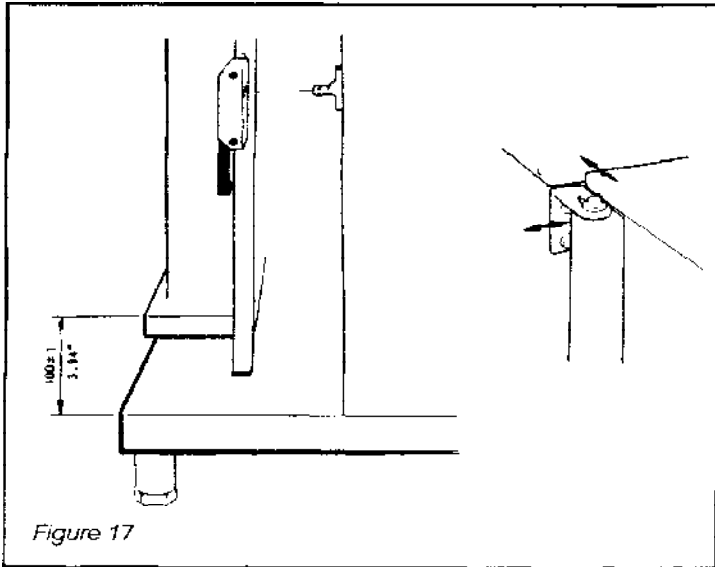

Figure 17
3. Adjust the casting so that it lines up with the center of the hole in the handle and the vertical measurement will be in accord with what is shown in Figure 17.